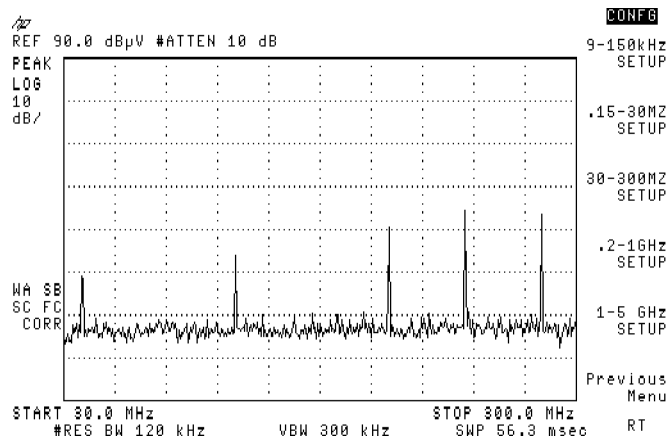

Figure 3-10. 30-300 MHz Setup Selected
4. Press **30-300Mz SETUP** when using the HP 11940A close-field probe. See Figure 3-10.